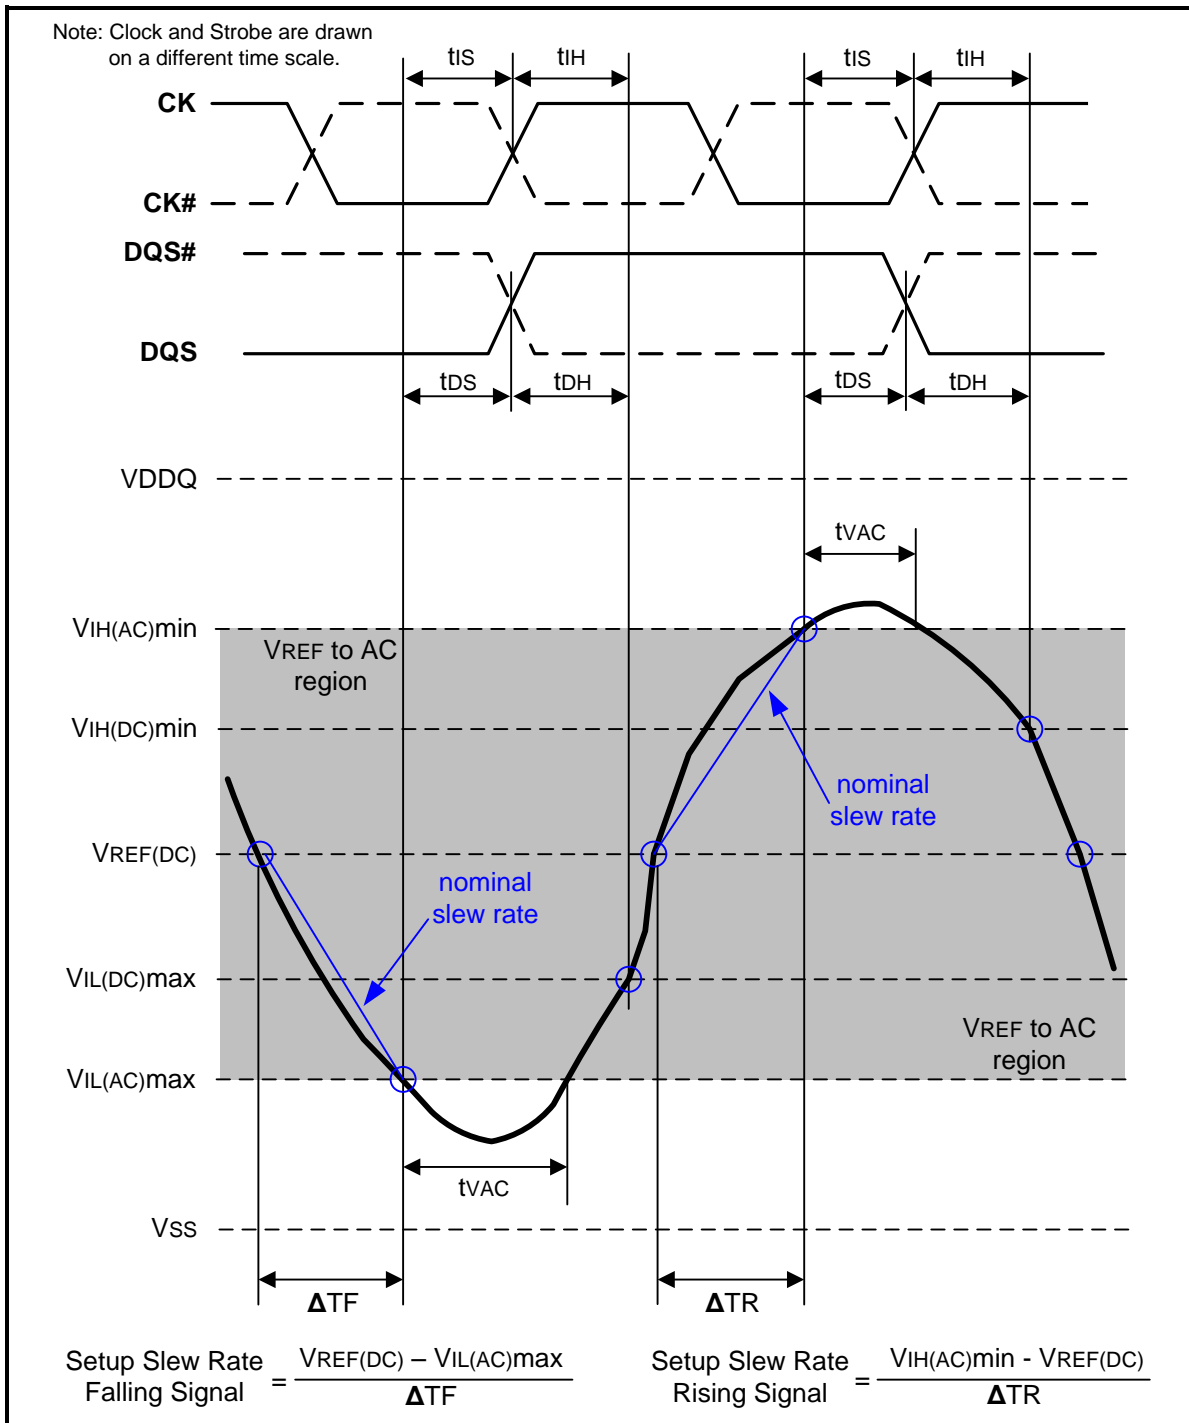
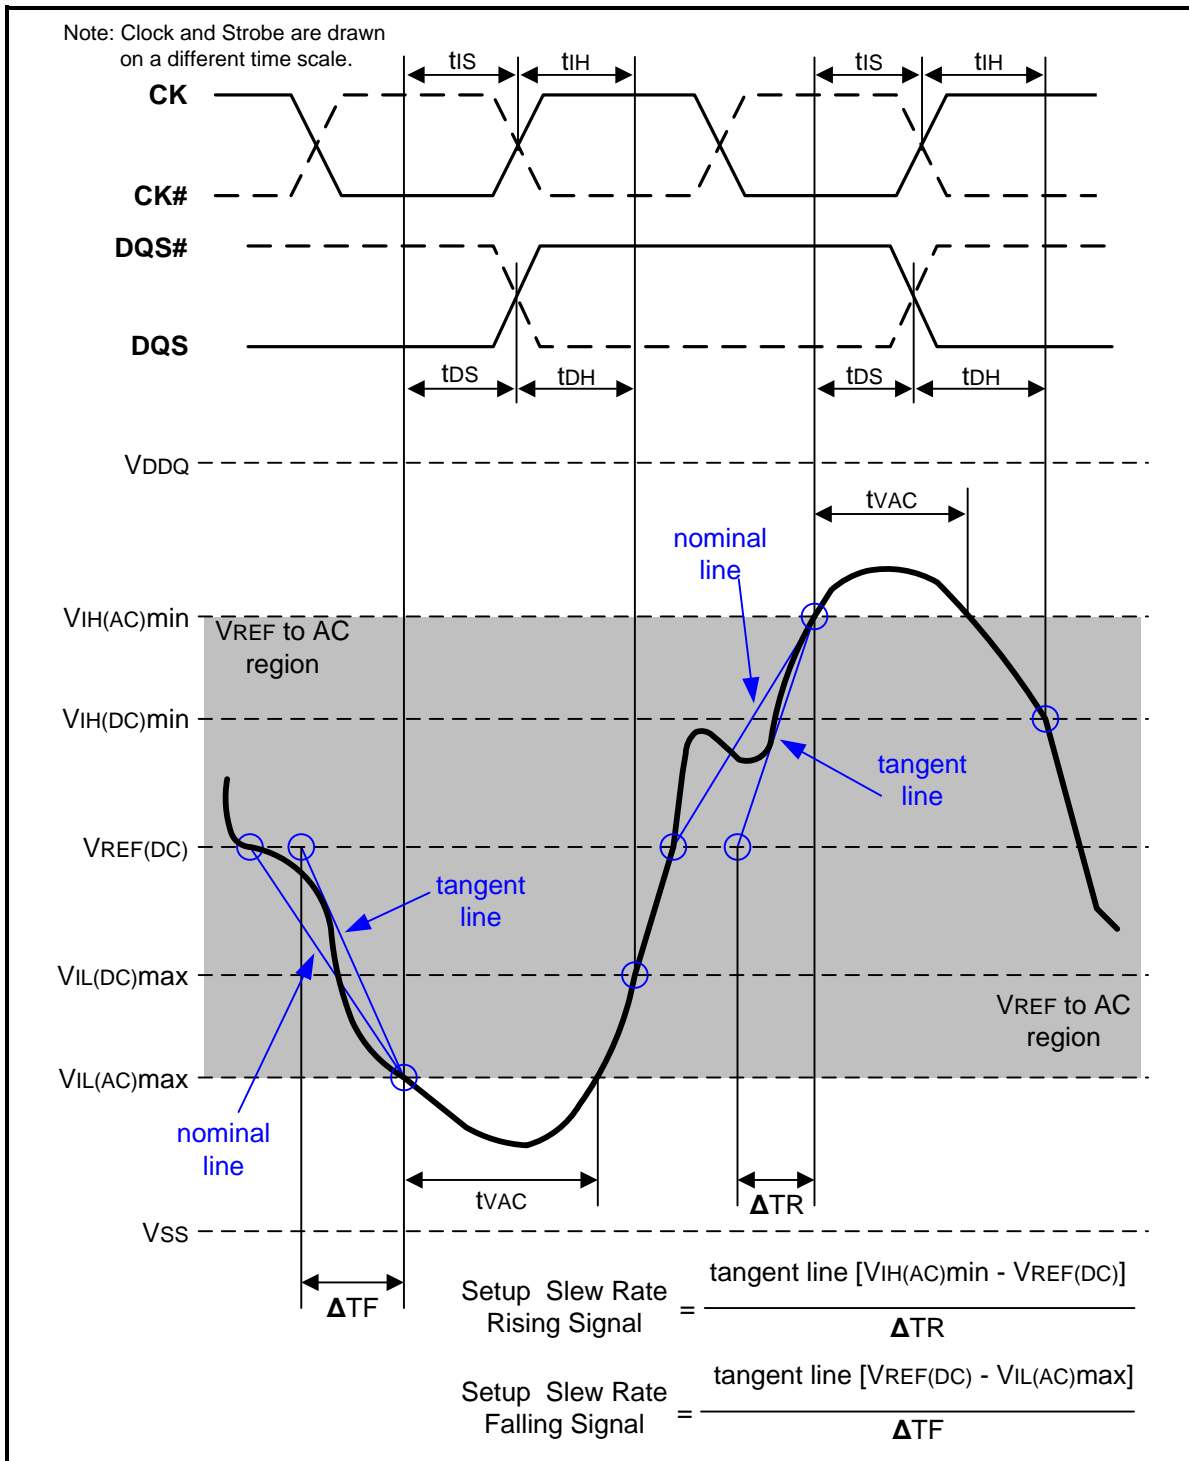

Figure 107 – Illustration of nominal slew rate and tVAC for setup time tDS (for DQ with respect to strobe) and tIS (for ADD/CMD with respect to clock)
Figure 109 – Illustration of tangent line for setup time  $t_{DS}$  (for DQ with respect to strobe) and  $t_{IS}$  (for ADD/CMD with respect to clock)
Setup ( $t_{IS}$ ) nominal slew rate for a rising signal is defined as the slew rate between the last crossing of  $V_{REF(DC)}$  and the first crossing of  $V_{IH(AC)min}$ . Setup ( $t_{IS}$ ) nominal slew rate for a falling signal is defined as the slew rate between the last crossing of  $V_{REF(DC)}$  and the first crossing of  $V_{IL(AC)max}$ . If the actual signal is always earlier than the nominal slew rate line between shaded 'VREF(DC) to AC region', use nominal slew rate for derating value (see Figure 107). If the actual signal is later than the nominal slew rate line anywhere between shaded 'VREF(DC) to AC region', the slew rate of a tangent line to the actual signal from the AC level to  $V_{REF(DC)}$  level is used for derating value (see Figure 109).
Setup (tDS) nominal slew rate for a rising signal is defined as the slew rate between the last crossing of VREF(DC) and the first crossing of VIH(AC)min. Setup (tDS) nominal slew rate for a falling signal is defined as the slew rate between the last crossing of VREF(DC) and the first crossing of VIL(AC)max (see Figure 107). If the actual signal is always earlier than the nominal slew rate line between shaded 'VREF(DC) to AC region', use nominal slew rate for derating value. If the actual signal is later than the nominal slew rate line anywhere between shaded 'VREF(DC) to AC region', the slew rate of a tangent line to the actual signal from the AC level to VREF(DC) level is used for derating value (see Figure 109).